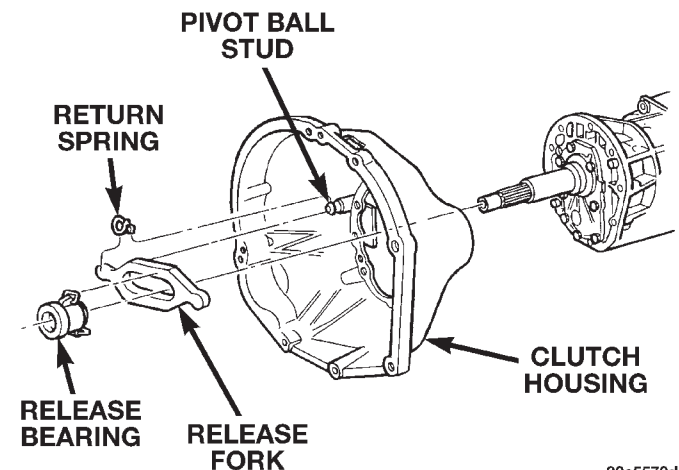

Fig. 6 Release Bearing Attachment
- (1) Remove transmission.
- (2) Disconnect release bearing from release lever and remove bearing (Fig. 6).
- (3) Inspect bearing slide surface of transmission front bearing retainer. Replace retainer if slide surface is scored, worn, or cracked.
- (4) Inspect release fork and fork pivot. Be sure pivot is secure and in good condition. Be sure fork is not distorted or worn. Replace release fork retainer spring if bent or damaged.